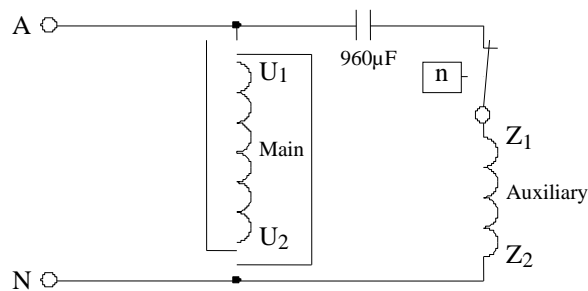

Figure 3
14. To reverse the motor direction of rotation, reconnect as shown in figure 3.